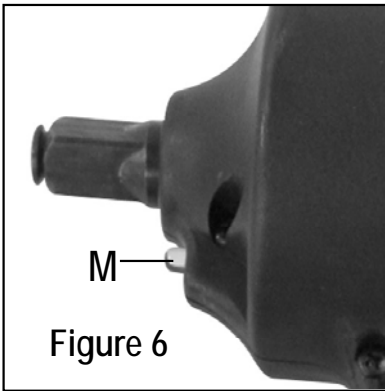

Figure 6
**NOTE:** This impact wrench is equipped with an automatic LED light (M) for use in low light conditions. (Figure 6)